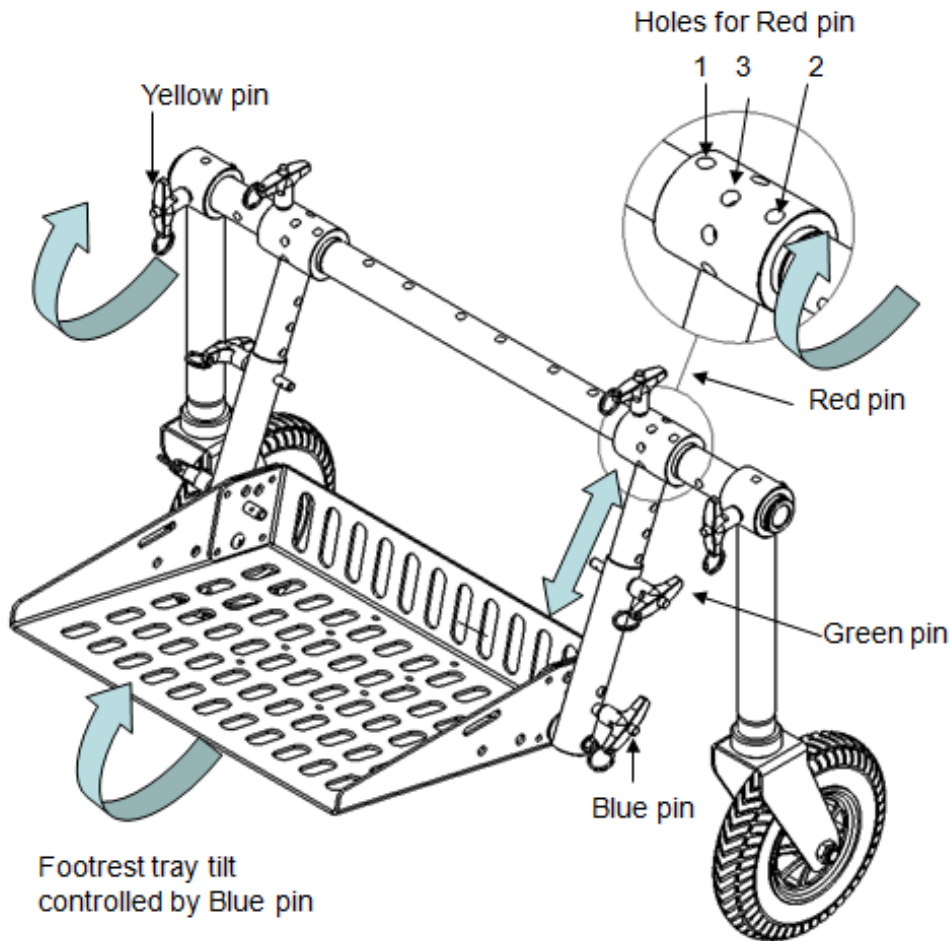

Figure 3. Positioning the footrest and casters.
- i. Lower the casters into wheelchair mode by removing the yellow pin in Figure 3, rotating the casters down, and re-pinning.
- b. **Footrest: Rotate the entire footrest assembly up towards the seat so it is out of the way (Figure 3).**
- ii. Unpin the yellow detent pins from the top of both casters (Figure 3).
- ii. Pull the yellow pins from each caster, rotate each caster down and pin them in place (Figure 3).
e. Position the footrest (Figure 3)
4. Raise the casters by pulling the yellow pins from the caster assemblies, rotating the casters up so they point forward, and re-pinning them (Figure 3).
3. Footrest: (Figure 3)